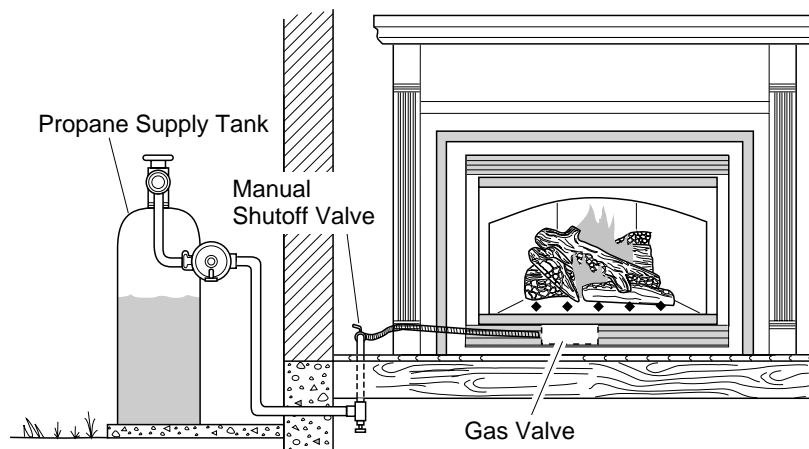
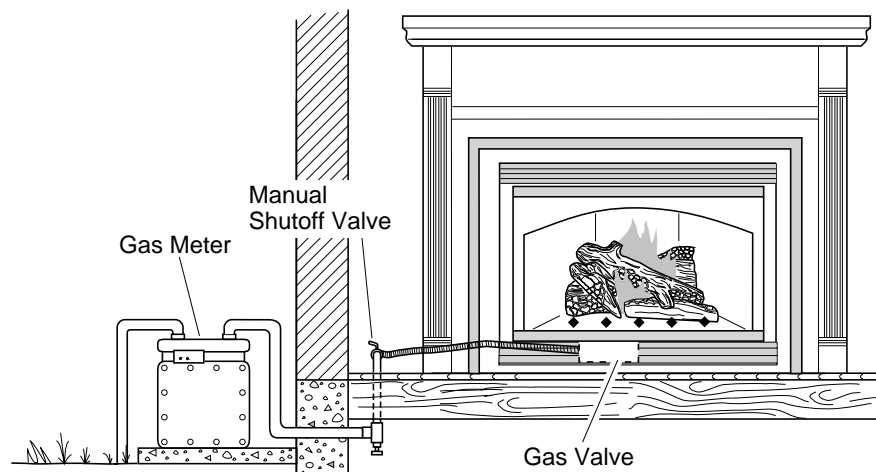

Figure 38 - Checking Gas Joints for Propane/LP Gas Fireplace
Figure 39 - Checking Gas Joints for Natural Gas Fireplace
3. Check all joints from propane supply tank or gas meter to manual shutoff valve (see Figure 38 for propane or Figure 39 for natural). Apply commercial leak test solution to all gas joints. Bubbles forming show a leak. Correct all leaks at once.
4. Check all joints from manual shutoff valve to thermostat gas valve (see Figure 38 for propane or Figure 39 for natural). Apply commercial leak test solution to all gas joints. Bubbles forming show a leak. Correct all leaks at once.